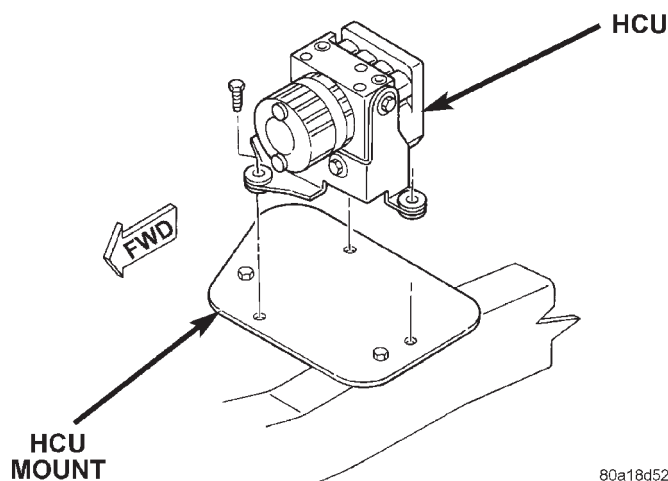

Fig. 7 HCU Mount
- (4) Remove HCU mounting bolts and remove HCU (Fig. 7).
- (5) Remove bolts from mount and remove mount from HCU.